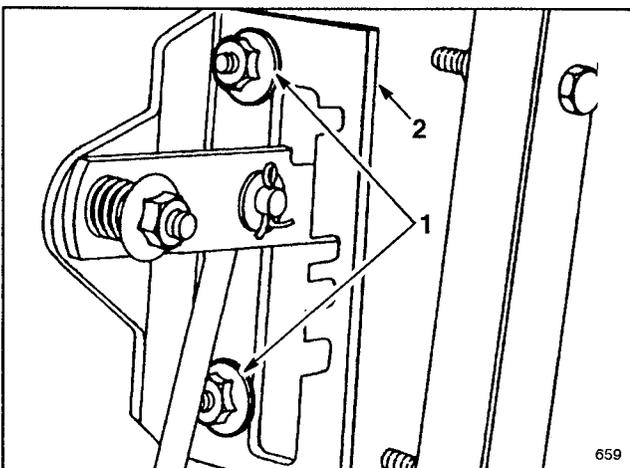
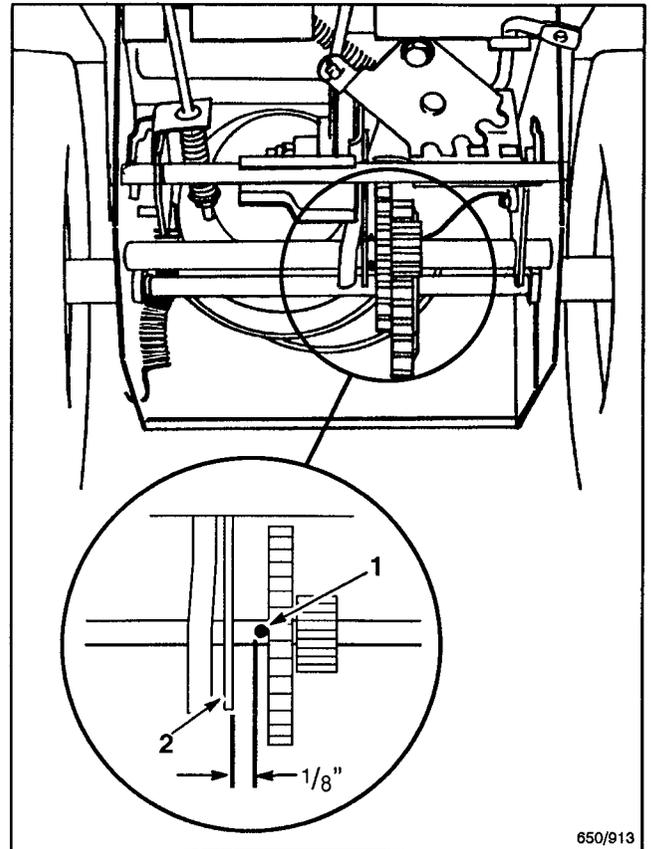

Figure 27
Figure 28
3. Loosen flange nuts securing selector plate to control panel. This allows selector plate to move freely for adjustment (Fig. 27).
4. Shift speed selector to third gear and push down on speed selector plate to move drive assembly to the right. Drive assembly should be  $\frac{1}{8}$ " from roll pin; if not, slide selector plate (Fig. 27) until  $\frac{1}{8}$ " dimension is correct (Fig. 28).